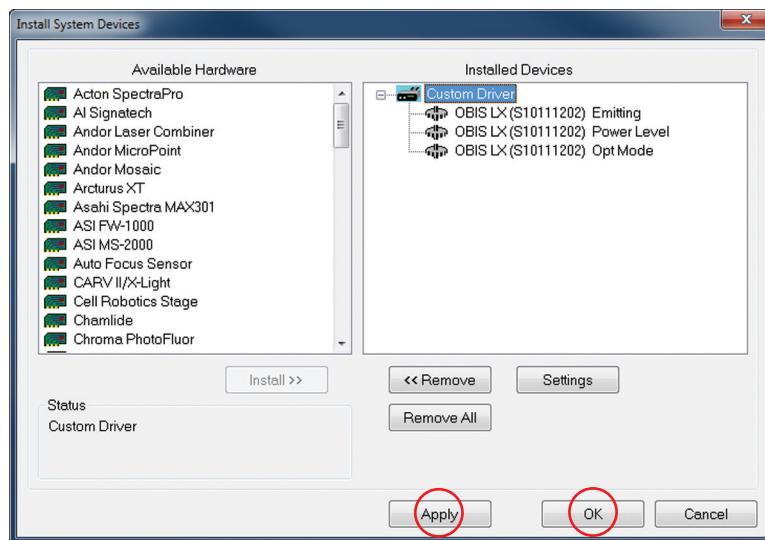

Figure VI-14. Apply Custom Driver
10. In the window shown in Figure VI-14, click Apply and then OK.